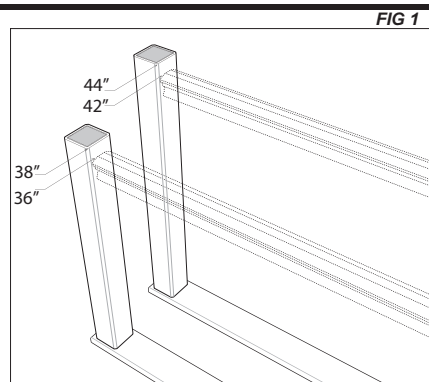

FIG 1
3. Measure and cut each post sleeve to the correct height for your railing system. **(Figure 1)**
3. Measure and cut each post sleeve to the correct height for your rail system. **(Figure 1)**